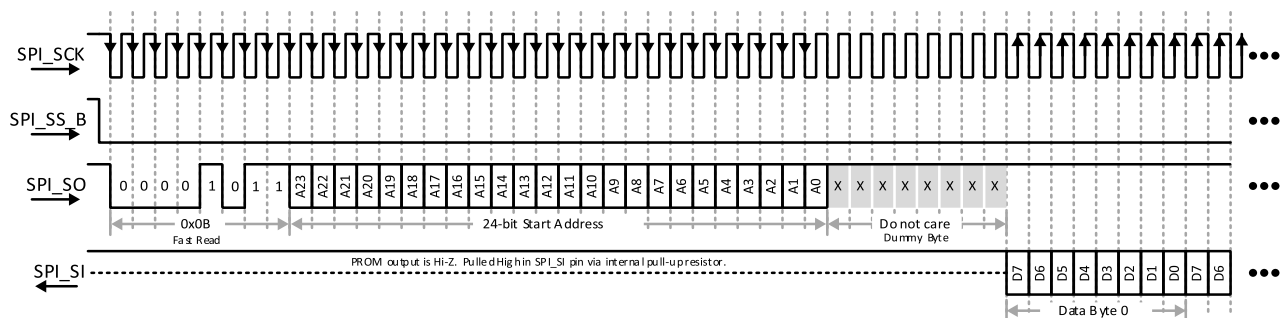

Figure 9.4. SPI Fast Read Command
- The PROM must support the 0x0B Fast Read command, using a 24-bit start address and has 8 dummy bits before the PROM provides first data (see Figure 9.4).
Figure 9.4 illustrates the next command issued by the iCE40 device. The iCE40 SPI interface again drives SPI_SS Low, followed by a Fast Read command, hexadecimal command code 0x0B, followed by a 24-bit start address, transmitted on the SPI_SO output. The iCE40 device provides data on the falling edge of SPI_SS. Upon initial power-up, the start address is always 0x00_0000. After waiting eight additional clock cycles, the iCE40 device begins reading serial data from the SPI PROM. Before presenting data, the SPI PROM's serial data output is high-impedance. The SPI_SI input pin has an internal pull-up resistor and sees high-impedance as logic 1.